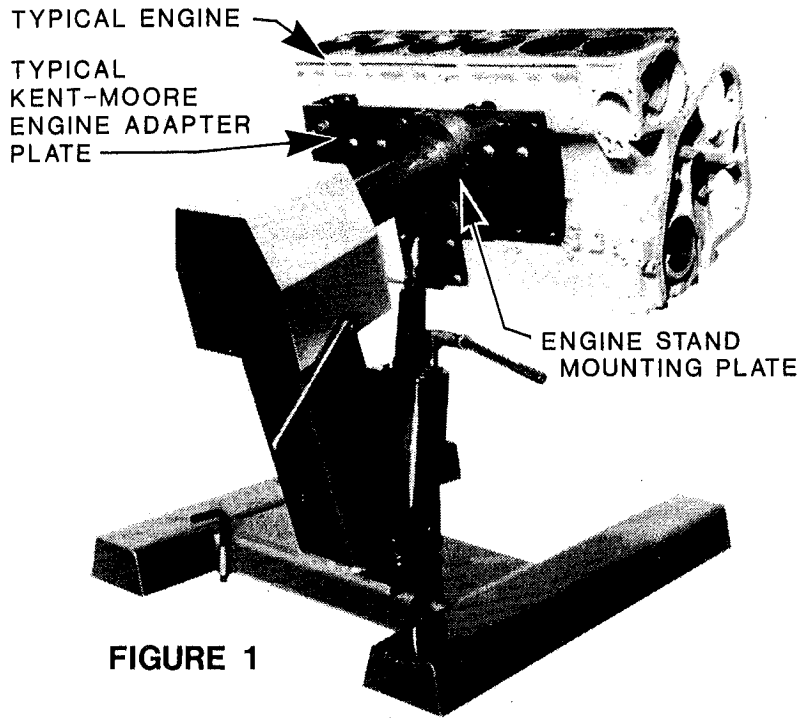

FIGURE 1
3. Using a safe lifting device, lift the engine (with adapter plate mounted) to align the six (6) threaded holes in the adapter plate, with the six (6) holes in the engine stand mounting plate. (Note: The engine stand mounting plate may require rotating for proper alignment. See figure 1.)
4. Fasten plates together using six (6) hex head cap screws.
ASSEMBLE RING GEAR, HOOD AND BACK COVER TO STAND (SEE FIGURES 1 & 2)